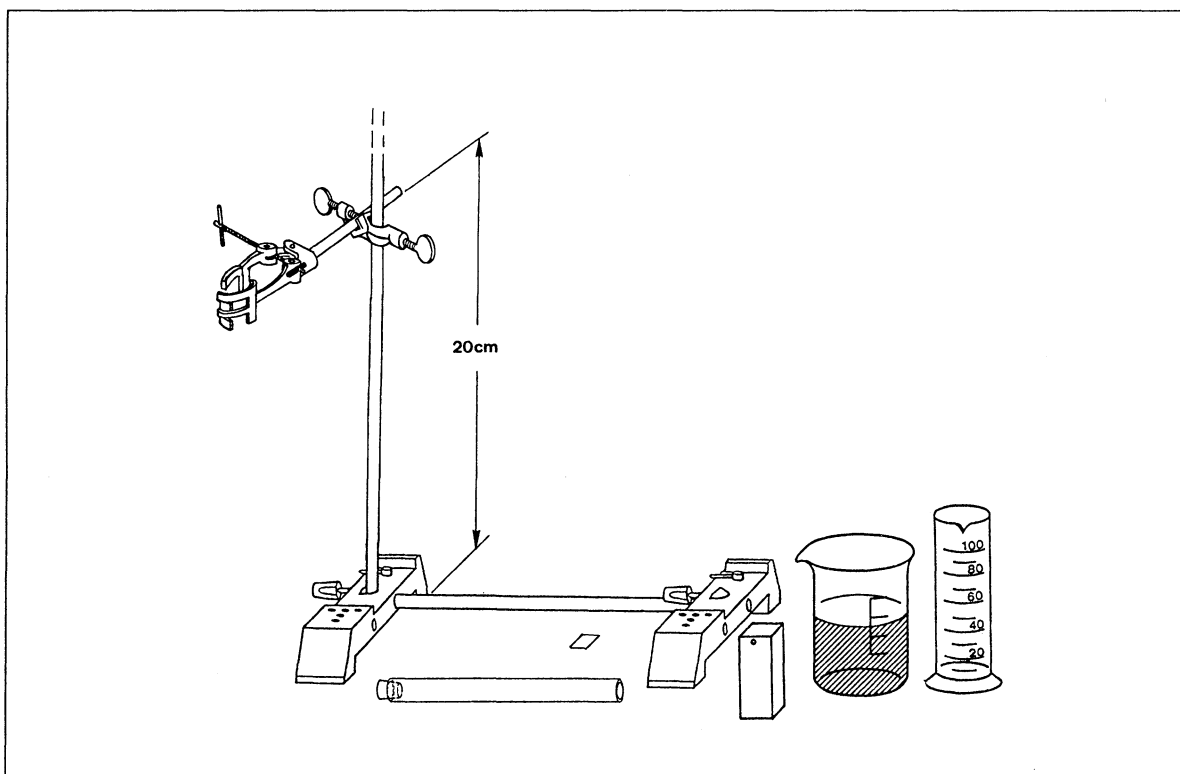

Fig. 1 ► 1.
1. Set up the apparatus and make the preparations shown in fig. 1.